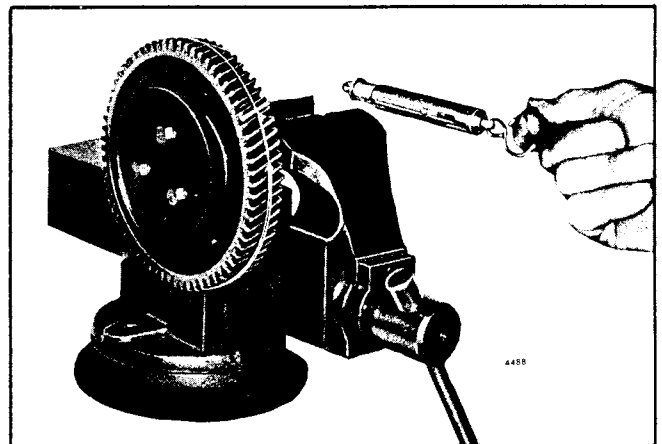

Fig. 12 - Checking Pre-Load of Idler Gear Bearing
4. Tie one end of a piece of lintless 1/8" cord around a 1/8" round piece of wood (or soft metal stock). Place the wood between the teeth of the gear, then wrap the cord around the periphery of the gear several times. Attach the other end of the cord to a spring scale, J 8129 (Fig. 12). Maintain a straight, steady pull on the scale, 90° to the axis of the hub, and note the pull, in pounds and ounces, required to start the gear rotating. Make several checks to obtain an average reading. If the pull is within 1-1/4 lb. minimum to 6 lbs. 12 ounces maximum and does not fluctuate more than 2 lbs. 11 ounces, the idler gear and bearing assembly are satisfactory for use.
2. Clamp the idler gear assembly and fixture in a vise as shown in Fig. 12.